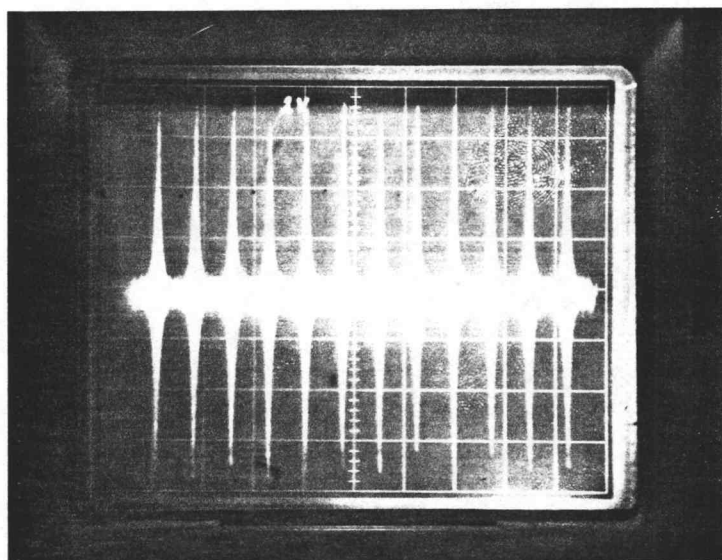

Fig. 2
- D. Check the beat notes for p-p value, do this by setting the span at ≈ 0.5 and then turning the freq. pot to 0 and then back to 6.4; watching that the beatnotes don't go below 3v p-p. See Fig. 2